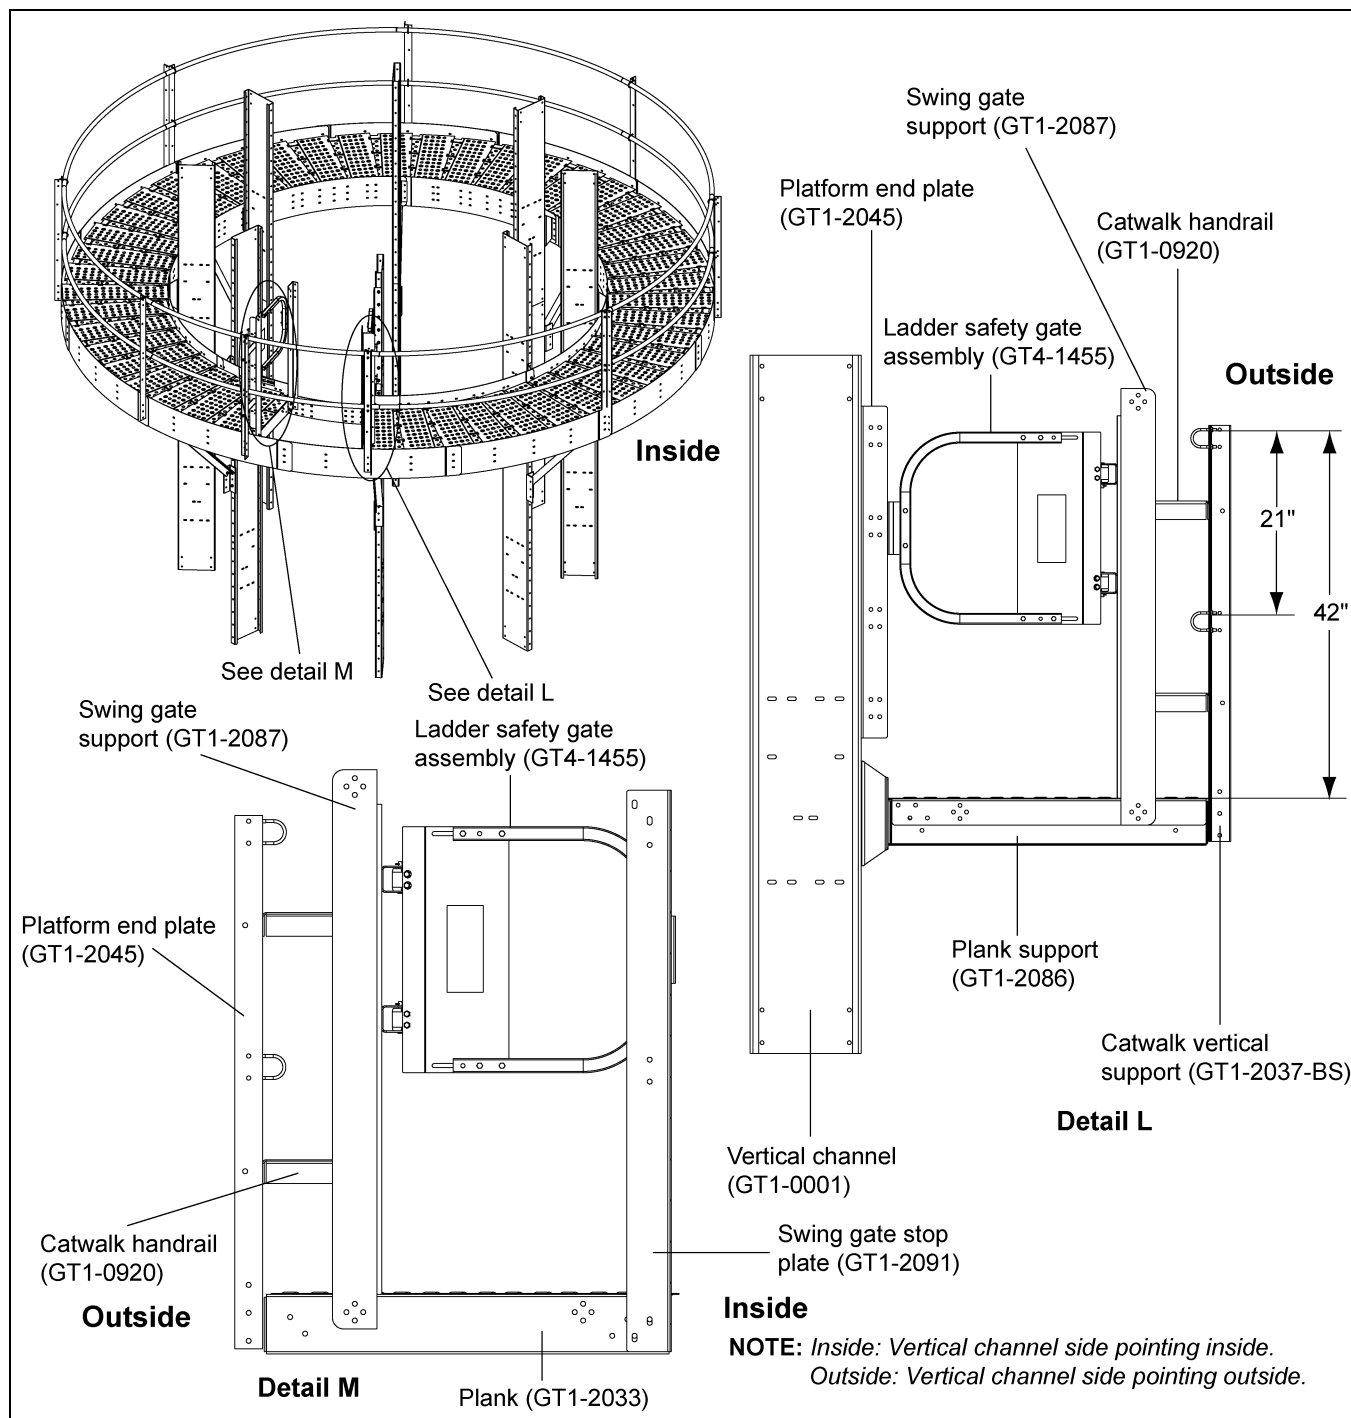

Figure 4X
5. Install the ladder safety gate assembly (GT4-1455) to the swing gate support (GT1-2087) using 3/8"-16 x 1" JS grade 8 or grade 8.2 bolts (S-7485) and 3/8"-16 ZN grade 5 nuts (S-968). (See detail L in Figure 4X.)
6. Install the ladder safety gate (GT4-1455) to the swing gate support (GT1-2087) and attach the stop plate (GT1-2091) to the ladder opening toe board (GT4-1465) and the plank (GT1-2033) using 3/8"-16 x 1" JS grade 8 or grade 8.2 bolts (S-7485) and 3/8"-16 ZN grade 5 nuts (S-968). (See detail M in Figure 4X.) The distance between the plank and handrail is 42".